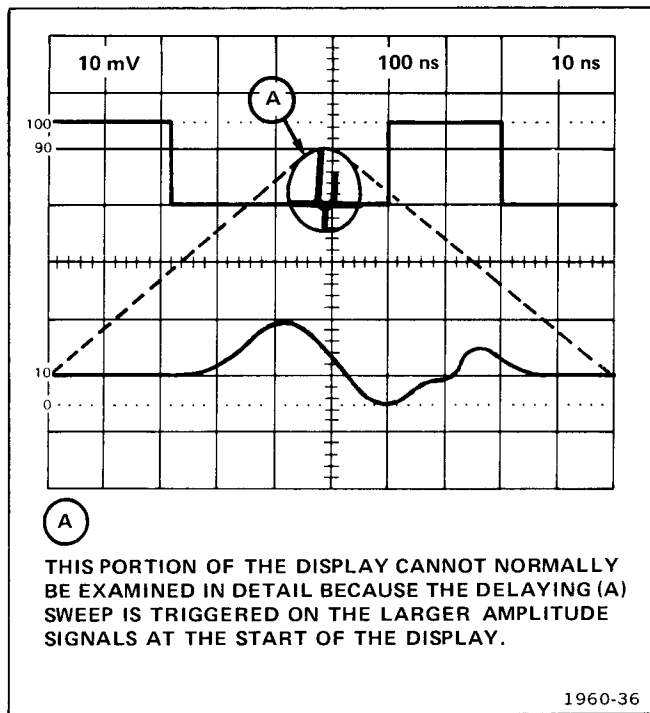

Fig. 1-10. Magnifying a selected segment of the delaying (A) sweep in the delay-time mode with mainframe alternate or chopped horizontal operation.
**5. To magnify a selected segment of the delaying (A) sweep waveform and determine apparent magnification in the delay-time mode:**
- b. Set the appropriate triggering, position, deflection-factor, and sweep-rate controls for the desired dual-trace display. See the example in Figure 1-10.
*If there is excessive jitter in the delayed (B) sweep display, refer to the Triggered Delayed Sweep Magnification discussion.*
c. Turn the DELAY TIME control to position the intensified zone to the portion of the delaying (A) sweep waveform to be magnified.
d. Set the delayed (B) sweep unit sweep rate to select the desired duration of the magnified display as indicated by the length of the intensified zone.
e. Observe the magnified display on the delayed (B) sweep. See Figure 1-10.
*For a better look at the delayed (B) sweep waveform, set the mainframe to the B horizontal mode and the amplifier-unit deflection factor to increase the display amplitude. Do not change the 7B85 TIME/DIV setting.*
f. Determine apparent magnification by dividing the 7B85 TIME/DIV setting by the delayed (B) sweep unit sweep-rate setting.
Example: The apparent magnification of the delayed (B) sweep shown in Figure 1-10 with a 7B85 TIME/DIV setting of .1 millisecond and a delayed (B) sweep unit sweep-rate setting of 1 microsecond is: